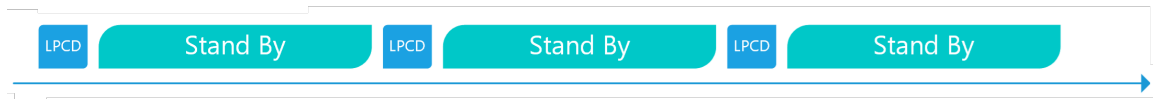

Figure 2. Polling Technology –LPCD Cycle
- Figure 2. Polling Technology –LPCD Cycle3